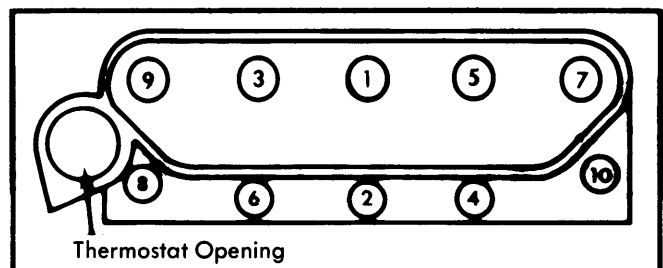

Fig. 1 Cylinder Head Bolt Tightening Sequence
**Installation** — To install, reverse removal procedure and tighten head bolts in increments in sequence shown in Fig 1. Adjust valve clearance to specifications.